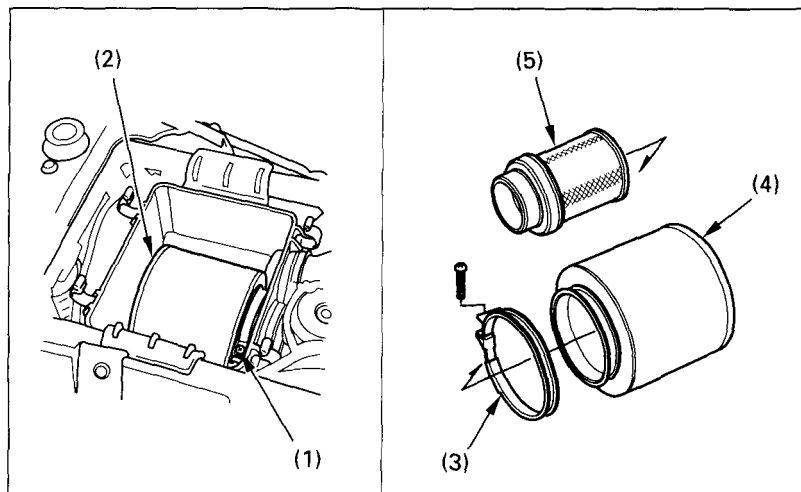

Fig. 4-5 (1) Screw
3. Remove the screws (1) (Fig. 4-5) and remove the air cleaner assembly (2) from the air cleaner housing.
4. Unscrew the clamp (3).
5. Remove the air cleaner (4) from the air cleaner body (5).